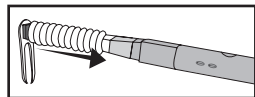

Figure 6.1; Install Blind Mount
Install the VERTICAL BLIND MOUNT ③ on the E-Wand by sliding the clear plastic bellows over the ATTACHMENT HOOK ① until it fits snugly on the E-Wand frame [Fig. 6.1]. Install the mount so that the sensor switches will be facing the inside of the room.